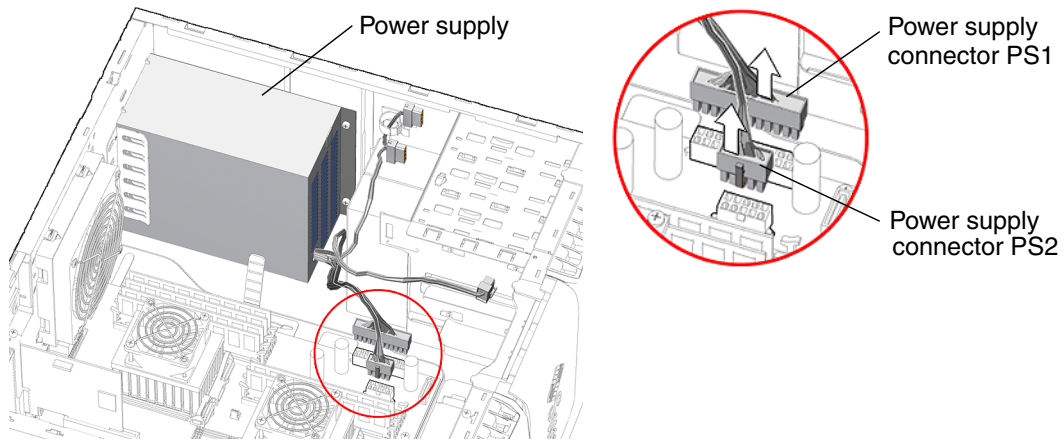

FIGURE 13-3 Disconnecting the Power Supply Cables
7. Disconnect the power supply cables from motherboard (FIGURE 13-3).